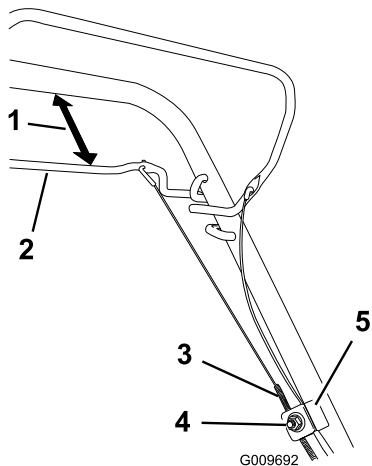

Figure 21
1. Loosen the cable-support nut (Figure 21).
2. Hold the self-propel-drive bar 25 to 38 mm (1 to 1-1/2 inches) from the handle (Figure 21).
3. Pull down the cable jacket (toward the machine) until there is no slack in the cable (Figure 21).